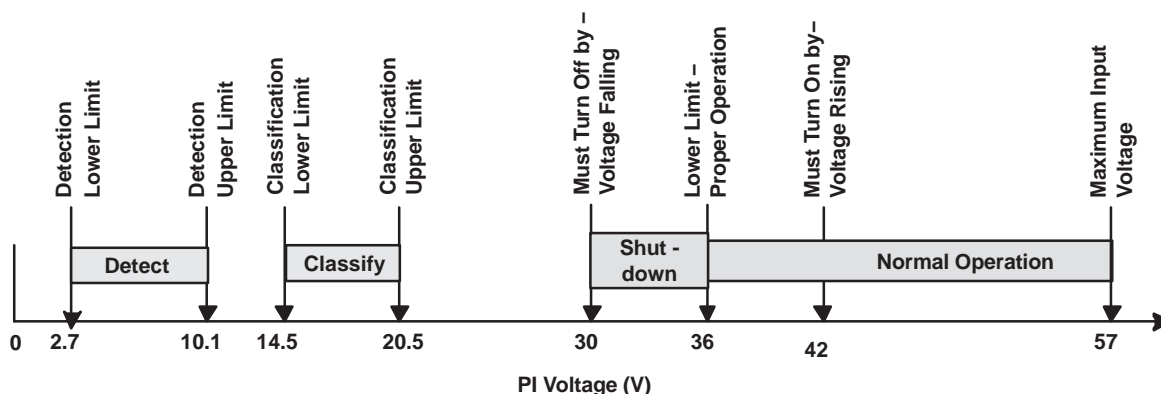
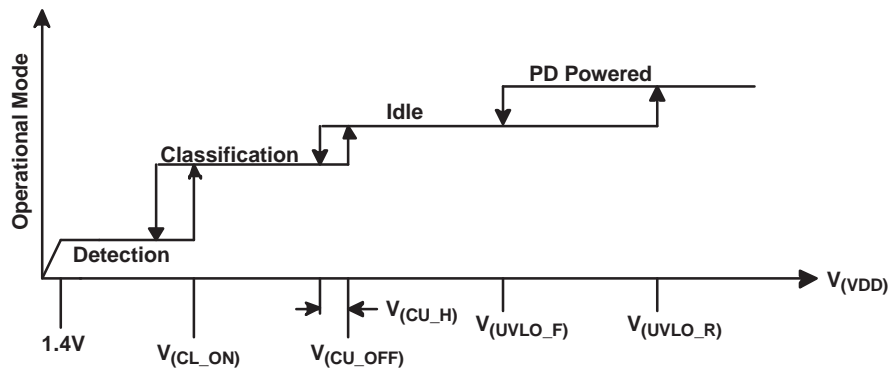

Figure 16. IEEE 802.3 PD Limits
Figure 17. Threshold Voltages
The IEEE 802.3af specification defines a process for safely powering a powered device (PD) over a cable, and then removing power if a PD is disconnected. The process proceeds through three operational states: detection, classification, and operation. The intent behind the process is to leave an unterminated cable unpowered while the PSE periodically checks for a plugged-in device; this is referred to as detection. The low power levels used during detection are unlikely to cause damage to devices not designed for PoE. If a valid PD signature is present, then the PSE may optionally inquire how much power the PD requires; this is referred to as classification. The PD may return a default full-power signature, or one of four other choices. Knowing the power demand of each PD allows the PSE to intelligently allocate power between PDs, and also to protect itself against overload. The PSE powers up a valid PD, and then monitors its output for overloads. The maintain power signature (MPS) is presented by the powered PD to assure the PSE that it is there. The PSE monitors its output for the MPS to see if the PD is removed, and turns the port off, if it loses the MPS. Loss of MPS returns the PSE to the initial state of detection. Figure 16 shows the operational states as a function of PD input voltage range.
In order to implement the PoE functionality as shown in Figure 16, the TPS2375-1 has a number of internal comparators with hysteresis for stable switching between the various states. Figure 17 relates the parameters in the Electrical Characteristics section to the PoE states. The mode labeled *idle* between classification and detection implies that the DET, CLASS, PG, and RTN pins are all high impedance.
The classification process applies a voltage between 14.5 V and 20.5 V to the input of the PD, which in turn draws a fixed current set by  $R_{(CLASS)}$ . The PSE measures the PD current to determine which of the five available classes (Table 1) that the PD is signalling. The total current drawn from the PSE during classification is the sum of bias currents and current through  $R_{(CLASS)}$ . The TPS2375-1 disconnects  $R_{(CLASS)}$  at voltages above the classification range to avoid excessive power dissipation (Figure 16 and Figure 17).
The TPS2375-1 incorporates an undervoltage lockout (UVLO) circuit that monitors line voltage to determine when to apply power to the downstream load and allow the PD to power up. The IEEE 802.3af specification dictates a maximum PD turnon voltage of 42 V and a minimum turnoff voltage of 30 V (Figure 17). The IEEE 802.3af standard assumes an 8-V drop in the cabling based on a 20-Ω feed resistance and a 400-mA maximum inrush limit. Because the minimum PSE output voltage is 44 V, the PD must continue to operate properly with input voltages as low as 36 V. The TPS2375-1 UVLO limits are designed to meet the turnon, turnoff, and hysteresis requirements.
The TPS2375-1 uses the UVLO function to control the load through an integrated MOSFET switch. Figure 17 graphically shows the relationships of the UVLO thresholds defined in the Electrical Characteristics section to the TPS2375-1 operational states.